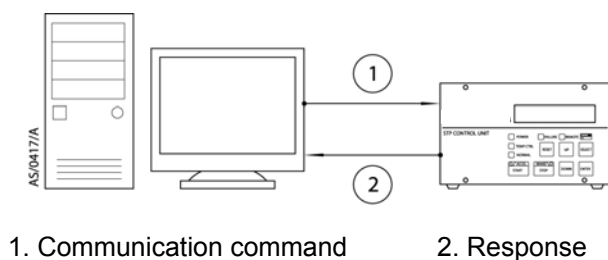

Figure 35 - PC to SIM communication
The STP serial communication protocol enables the SIM to receive the communication command (Figure 35, item 1), transmitted from the PC and send a response (Figure 35, item 2), following the communication command. Each communication command from the PC transmits a text message (ASCII text) assigned to each function. Communication commands include control commands (STP pump operation commands, and so forth) and query commands (read-out of STP pump operation mode, and so forth).